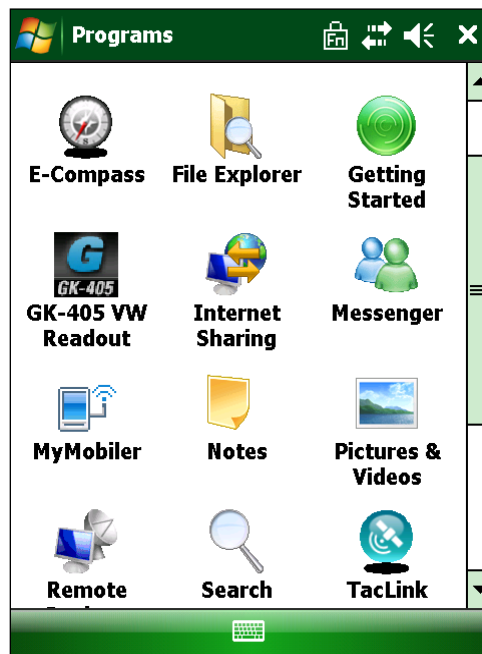

Figure 23 - GK-405 VWRA Icon in Start->Programs
- 6) The file, GK405_Installer.CAB can be now deleted from the system root folder to free up memory. The GK-405 VW Readout application is now installed and its icon should appear in “Start->Programs” (Figure 23).